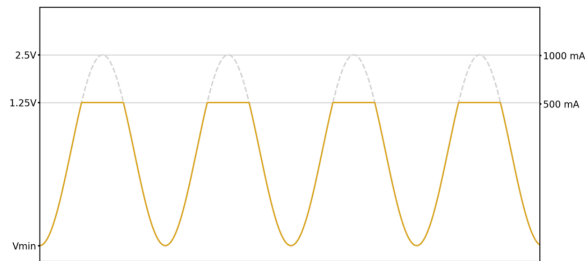

Figure 11.82: Cropped LED excitation signal
- **Custom** - this setting allows users to manually adjust the **Vmax** and **Vmin** of the LED, regardless of **LED's maximum current**. Care should be taken to remain below the maximum voltage, or the excitation signal will be cropped at the true maximum value (see Fig. 11.82).